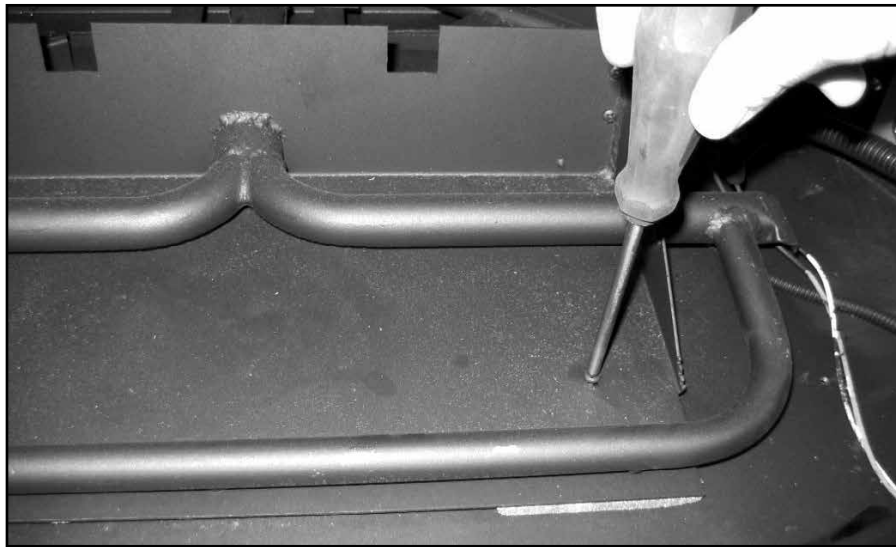

Figure 4: Attach burner to firebox shield.
3. Attach the burner assembly to the floor shield in the bottom of the firebox with the two screws provided. Ensure that the front edge of the burner is flush with the front of the shield.(Figure 4).